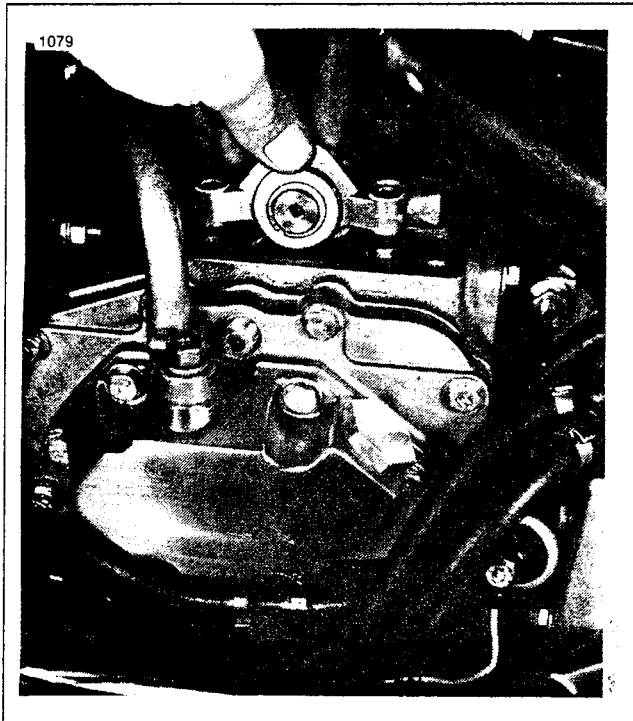

Figure 6. Shifter Cam Locating Dowel Pin
9. See Figure 6. Place shifter cam assembly on transmission case with shifter forks positioned in the slots. The transmission case has dowel pins which fit into the mounting holes of the right support block. Align the cam assembly by securing the right support block and tighten all bolts to 7-9 ft-lbs torque. Check the left support block to see that it is not cocked and does not bind on its bearing.